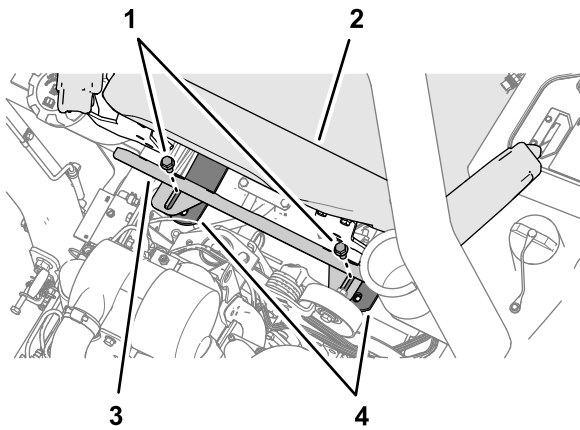

Figure 58
5. At the back of the operator's seat, align the slots of the heat shield and the holes in the seat straps with the standoff on the cross tube (Figure 58).